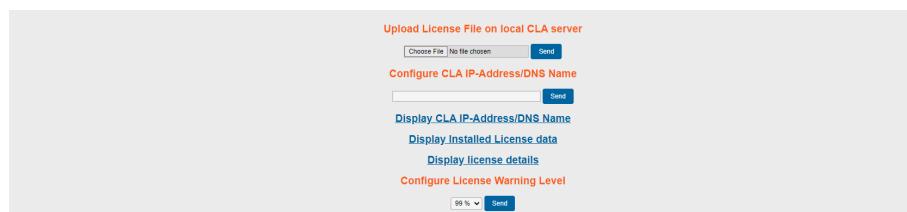

Figure 51: License Management Home Page
- 3) In the OpenScape 4000 Administration screen, open the Object menu and select New (see Figure 51).